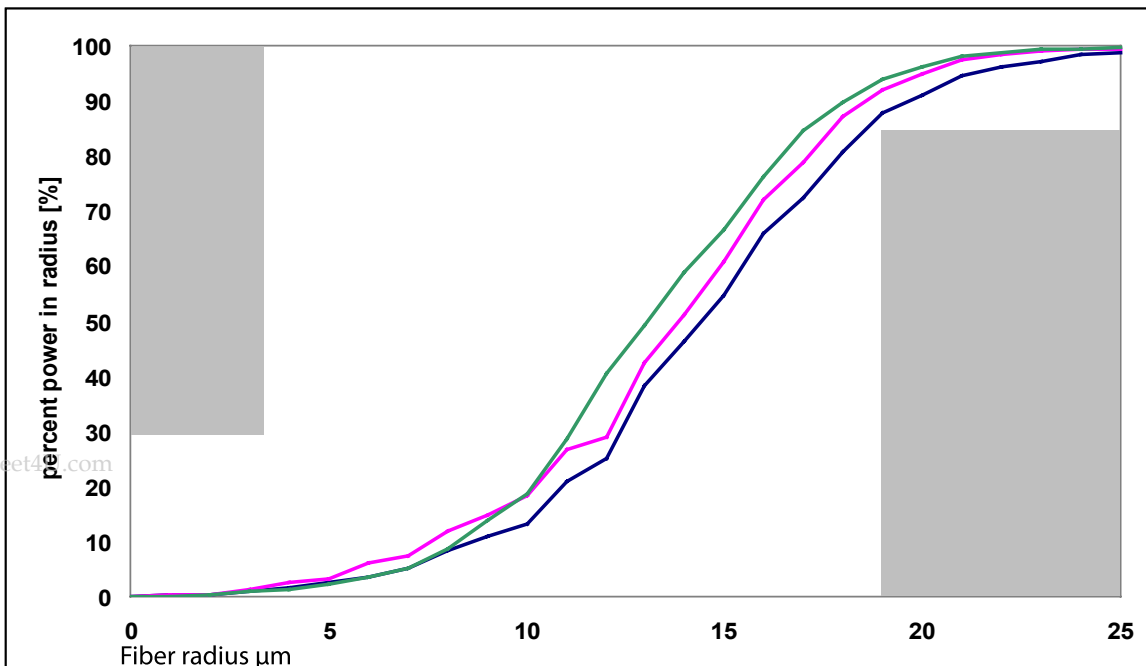

Fig 1; IEEE 802.3ae launch conditions measured with 3 examples
- Launched power distribution according to IEEE 802.3ae - 2002, see fig 1